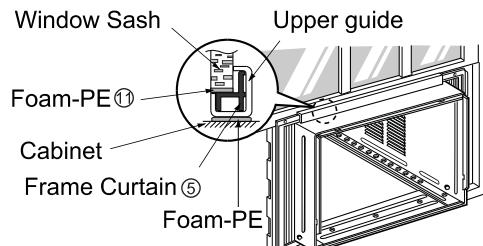

Fig. 2
2. Pull the bottom window sash down behind the Upper Guide until they meet. (Fig. 2)
**NOTE:** Do not pull the window sash down so tightly that the movement of Frame Curtain⑤ is restricted.